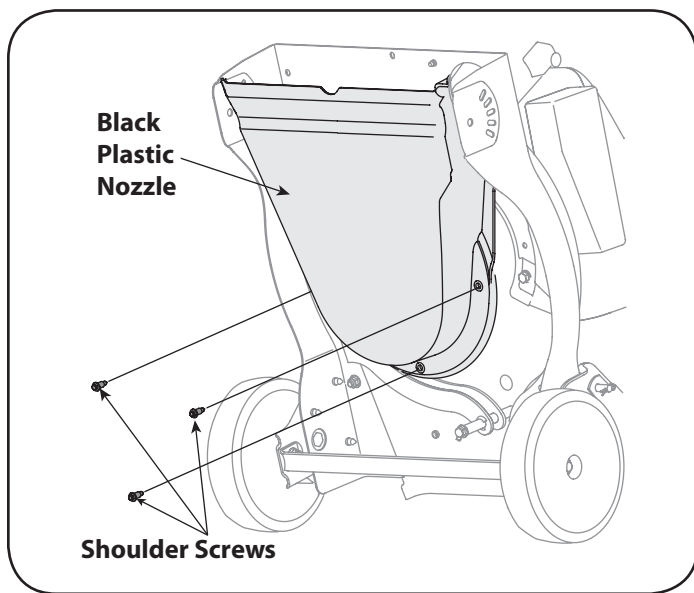

Figure 22
7. Carefully tilt and support the unit up to provide access underneath to the nozzle mounting hardware and impeller. Remove the three shoulder bolts securing the black plastic lower flail housing to the lower housing. Refer to Figure 22.